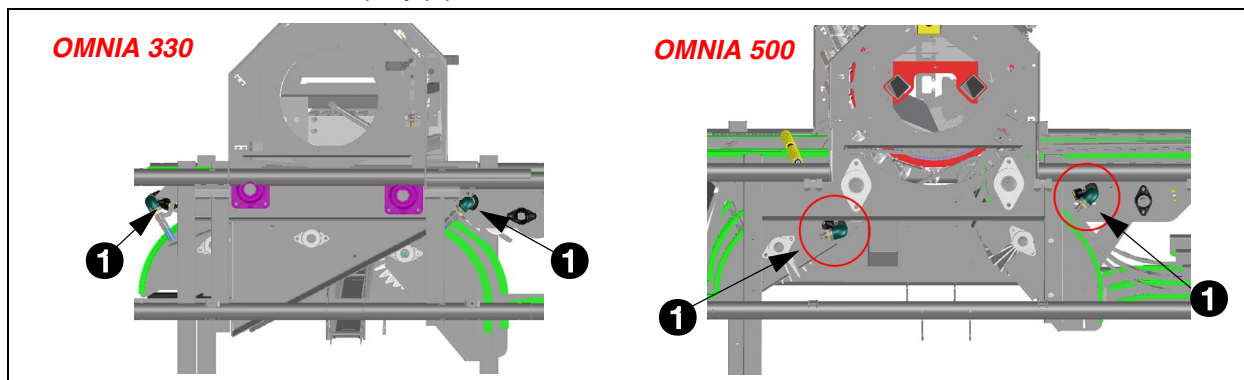

Fig. 225 - Location of spray pipes
2. Disconnect the hoses from the spray pipes (1). The hoses are connected to the spray pipes by a quick-release connector (2). See fig. 225.